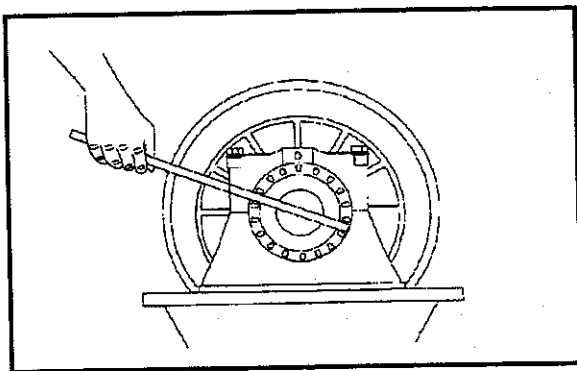

Figure 27—Adjusting Rings
8. Tighten both adjusting rings until end play is eliminated and there is backlash between the ring gear and pinion. (See Figure 27—Adjusting Rings.)